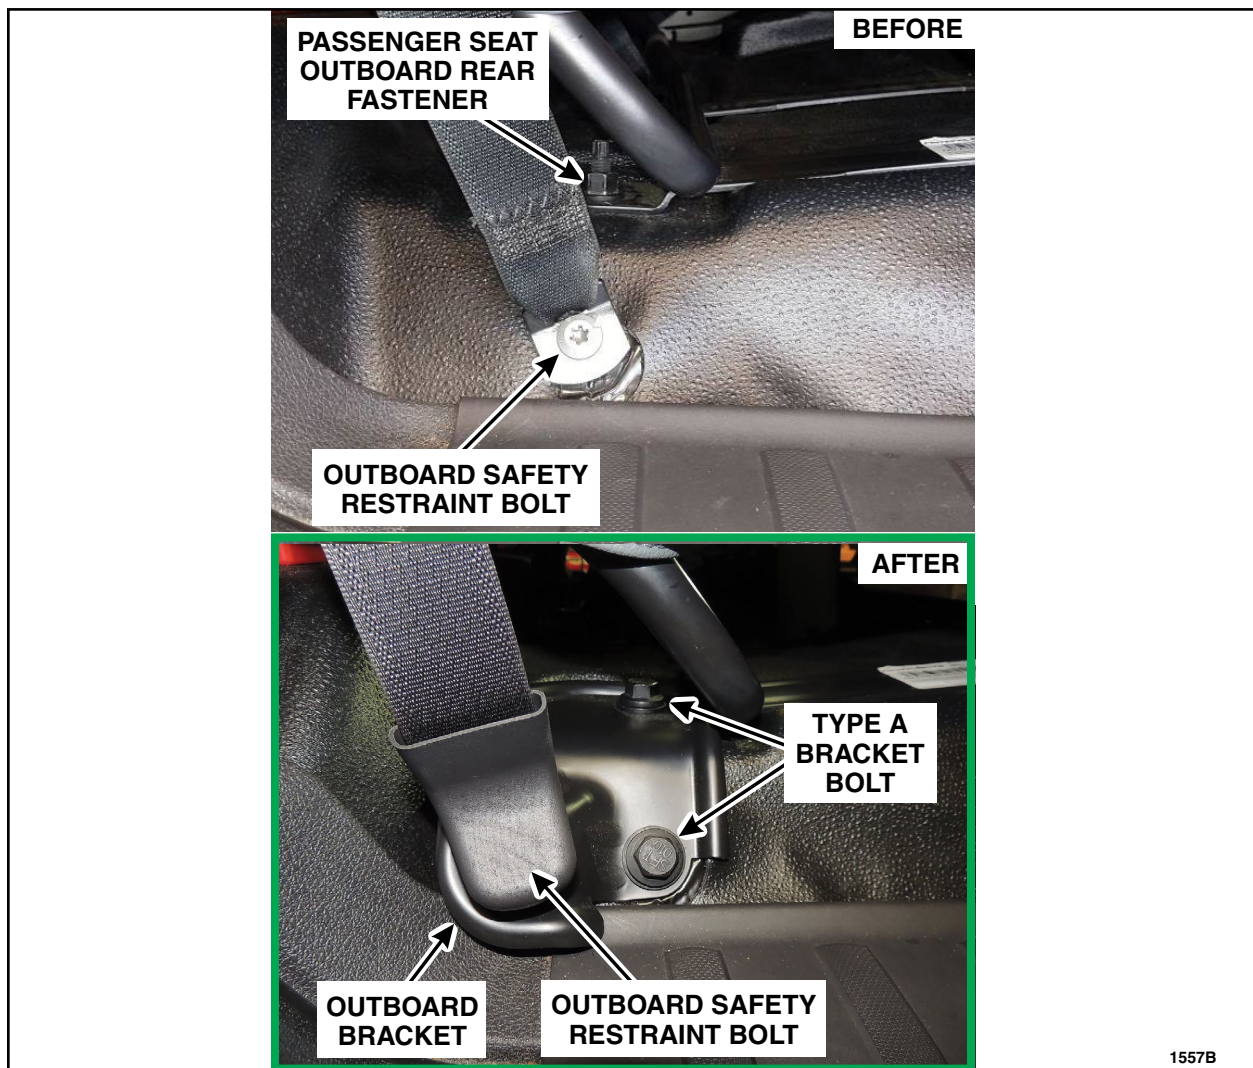

FIGURE 4
3. For all regular cab and crew cab vehicles, install the outboard bracket (See Figure 4). For all super cab vehicles, proceed to Step 4; the outboard bracket will not be used.